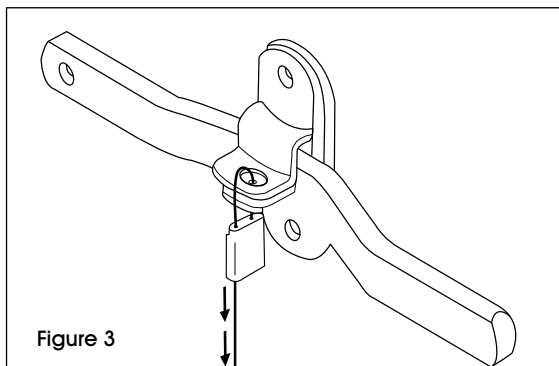

Figure 3
5. Pull on cable tightly to minimize loop in cable. (See Figure 3)